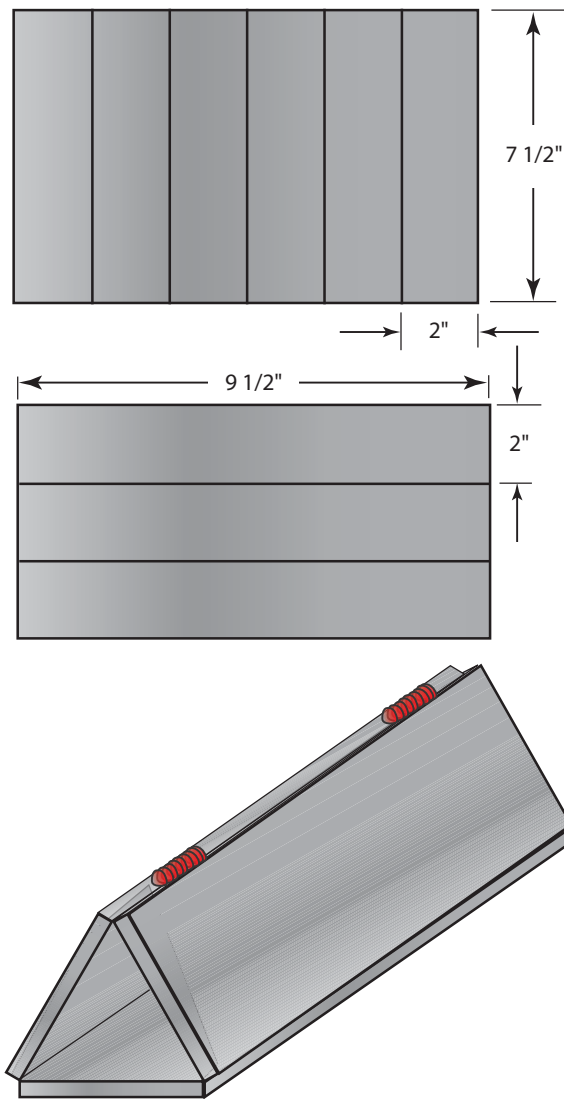

FIGURE 12-33 C-clamp assembly.
- Once the three triangular beams are welded, they can be assembled according to the layout shown in Figure 12-33.